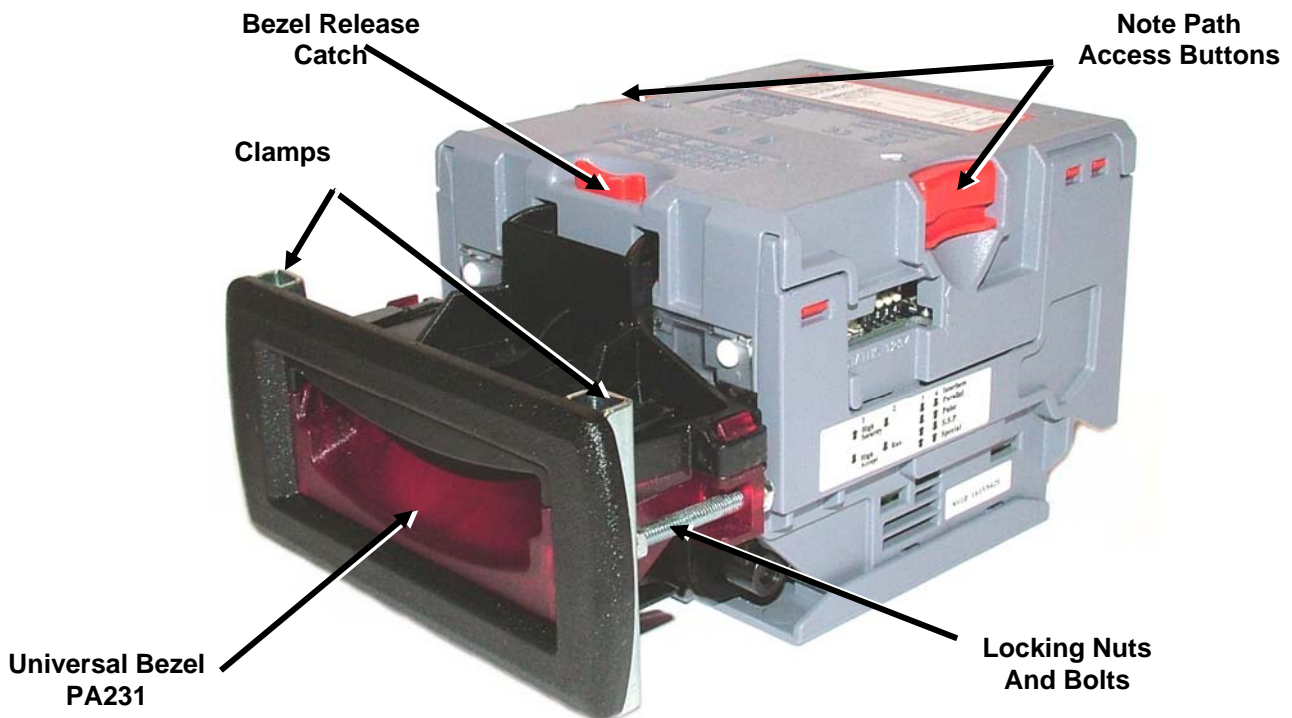
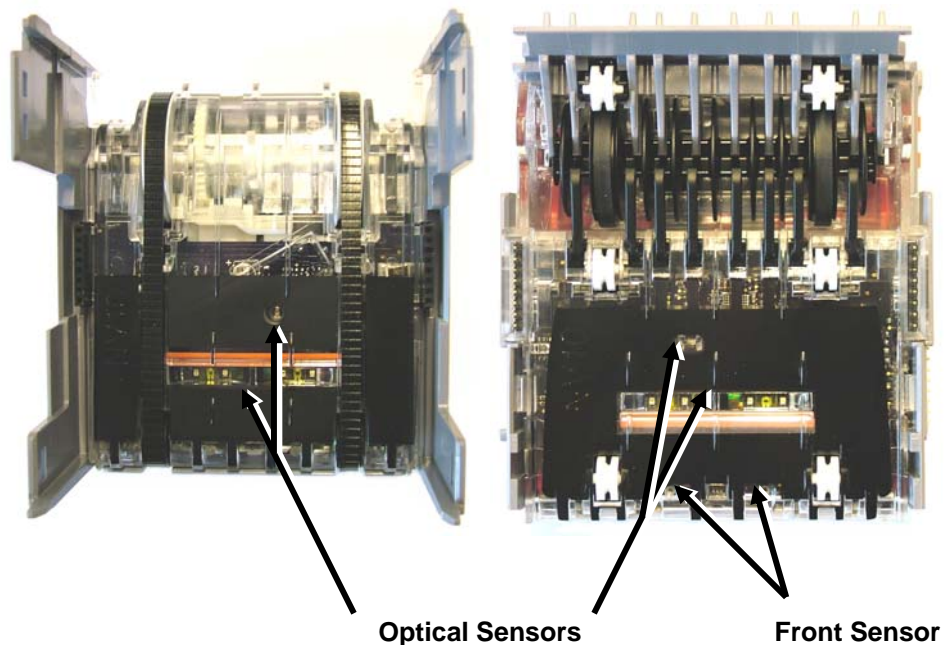

Figure 9 – Bezel and NV10 Installation
Figure 10 – NV10 Sensors
The NV10 validator is supplied with the Universal Bezel-PA231 (see figure 9).
- Remove the 4 nuts, 2 metal clamps, star washers and 2 bolts from each side of the bezel as above (see figure 9).
Remove the NV10 from its bezel. Push the 2 red Note Path Access Buttons on the sides of the NV10 downwards and then inwards towards the body of the NV10 (see figure 9) and lift to expose the note paths, place them on a clean dry surface. The note path will now be exposed for cleaning, (see figure 10).
Carefully wipe the surfaces with a soft lint free cloth that has been dampened with a water and mild detergent solution (i.e. household washing up liquid). Take particular care around all the sensor lenses (see figure 10), ensuring they are clean and dry. Clean any metal debris that may be attached to the magnetic sensor.
- With the NV10 note paths exposed (see figure 10) place the unit on a clean dry surface.